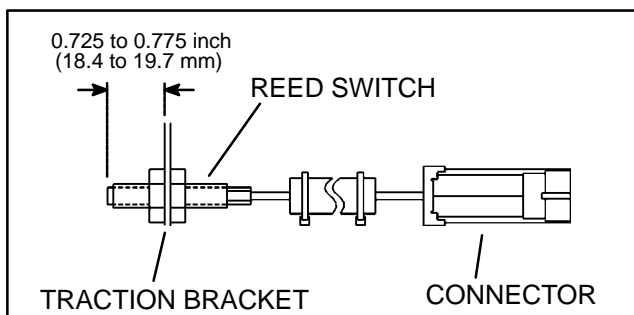

Figure 10
4. The distance between the sensing end of each switch and the traction bracket should be 0.725 to 0.775 inch (18.4 to 19.7 mm) (Fig. 10).